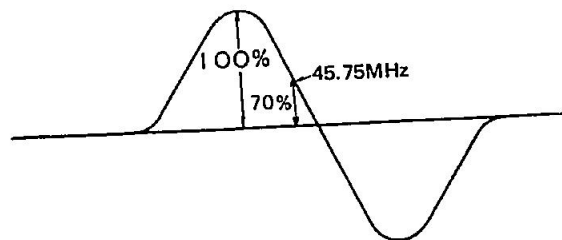

Figure 10. AFT RESPONSE CURVE.
3. Adjust coil L171 for exact marker position. (See Fig. 10)